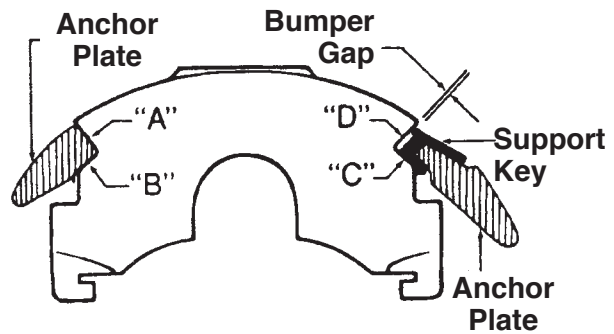

Figure 2
5. Insert a screw driver into center of key/bumper gap and pry firmly to assure that the caliper is seated against the three slide surface A, B, and C (see Figure 2).
6. Measure the bumper gap with the largest feeler gauge (or stack of gauges) that will fit into the gap on either side of the screw driver (see Figure 2).